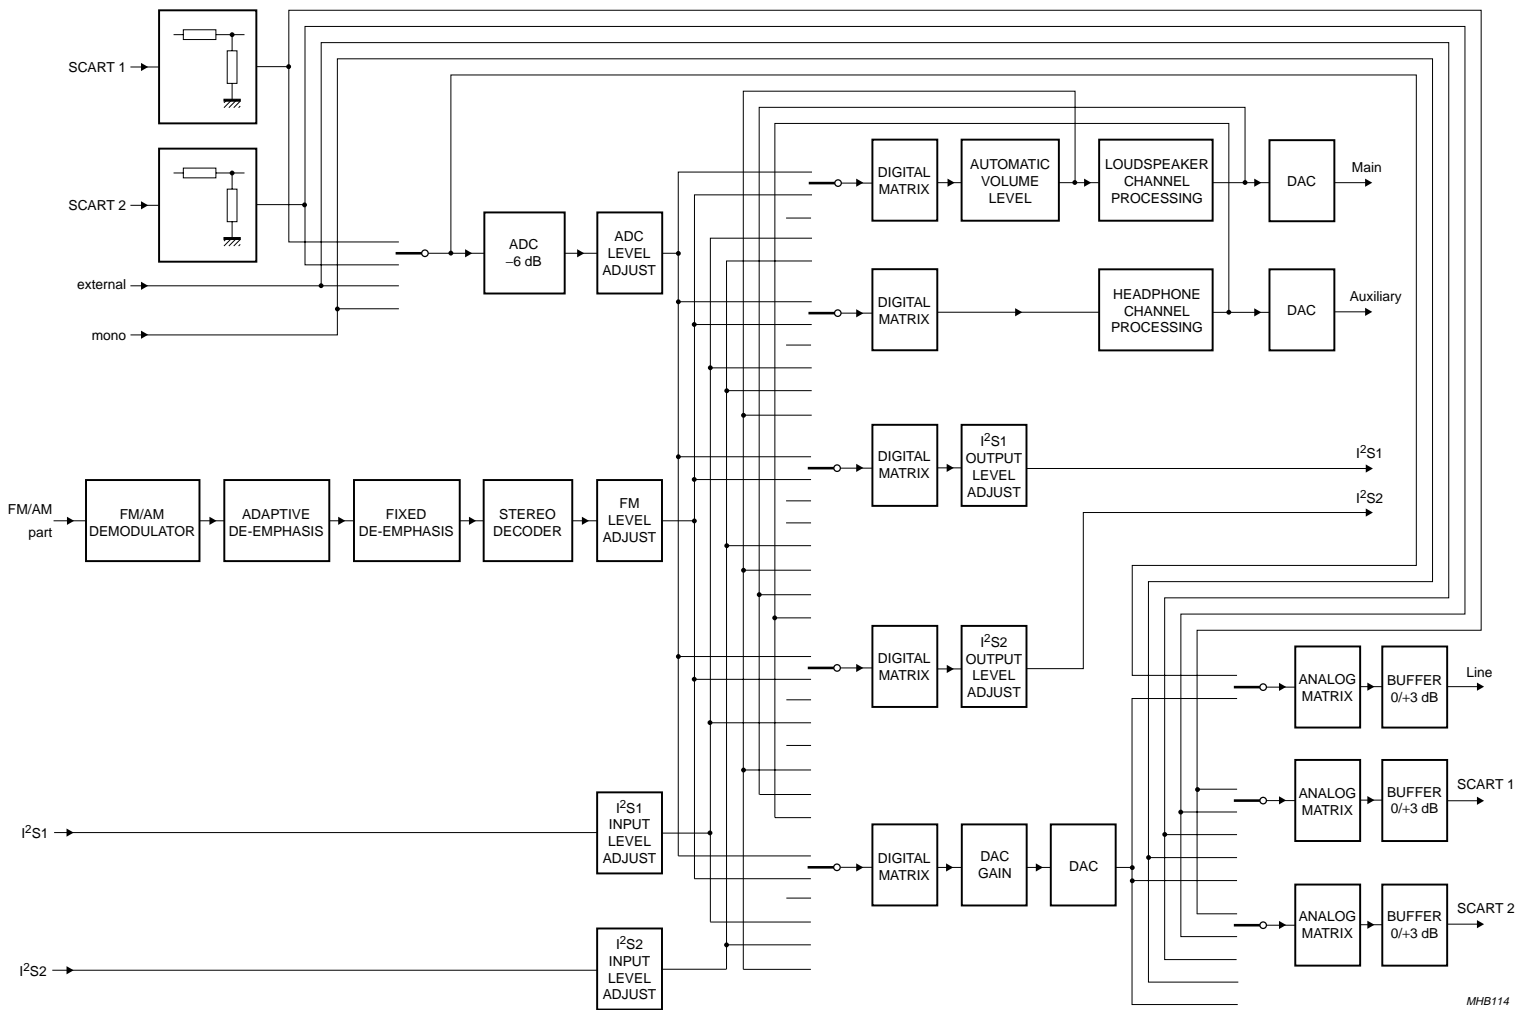

Fig.6 Audio signal flow diagram.
6.2.9 DIGITAL CROSSBAR SWITCH (see Fig.6)
6.3.1 ANALOG CROSSBAR SWITCH AND ANALOG MATRIX (see also Fig.6)